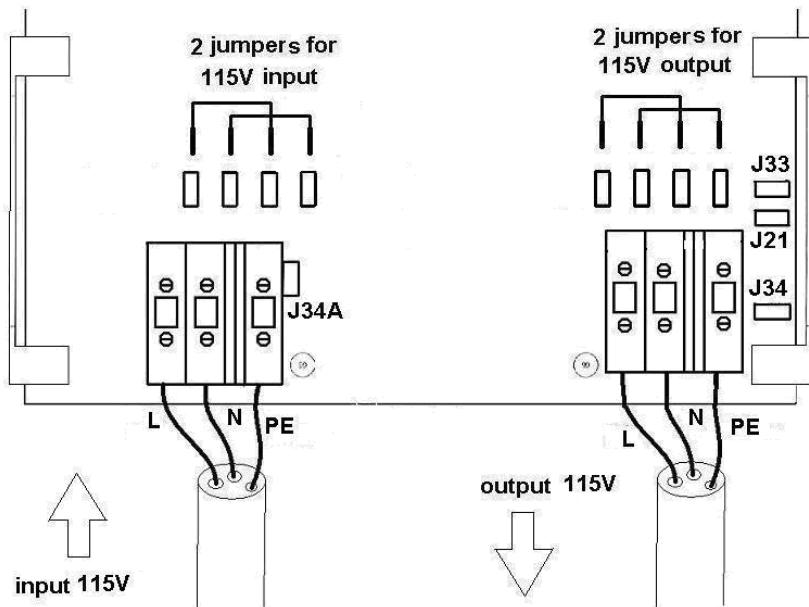

Figure 3: Jumper settings for 115/120V input and/or output
**2.2.3 Other models: for 110/120V input and/or output, connect the push-on jumpers as shown in fig 3.**